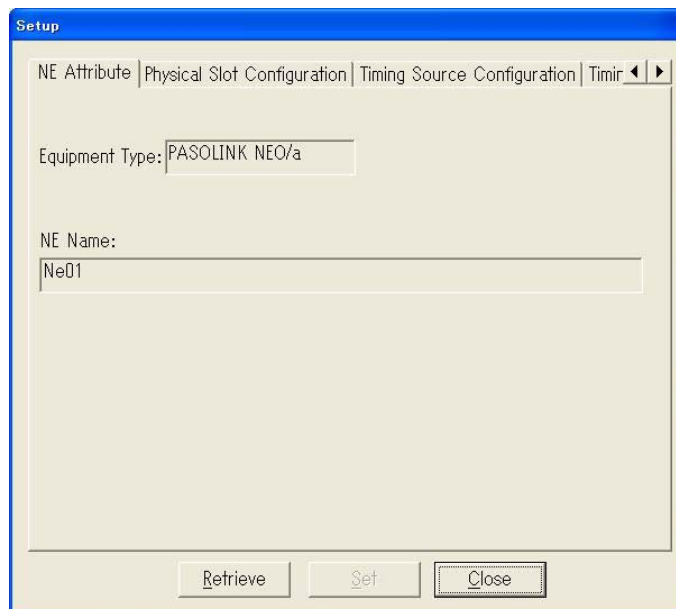

Fig. 4-4-13 Setup-NE Attributes Dialog Box
- 1 Confirm the **NE Attribute** dialog box shown in Fig. 4-4-13 is displayed.